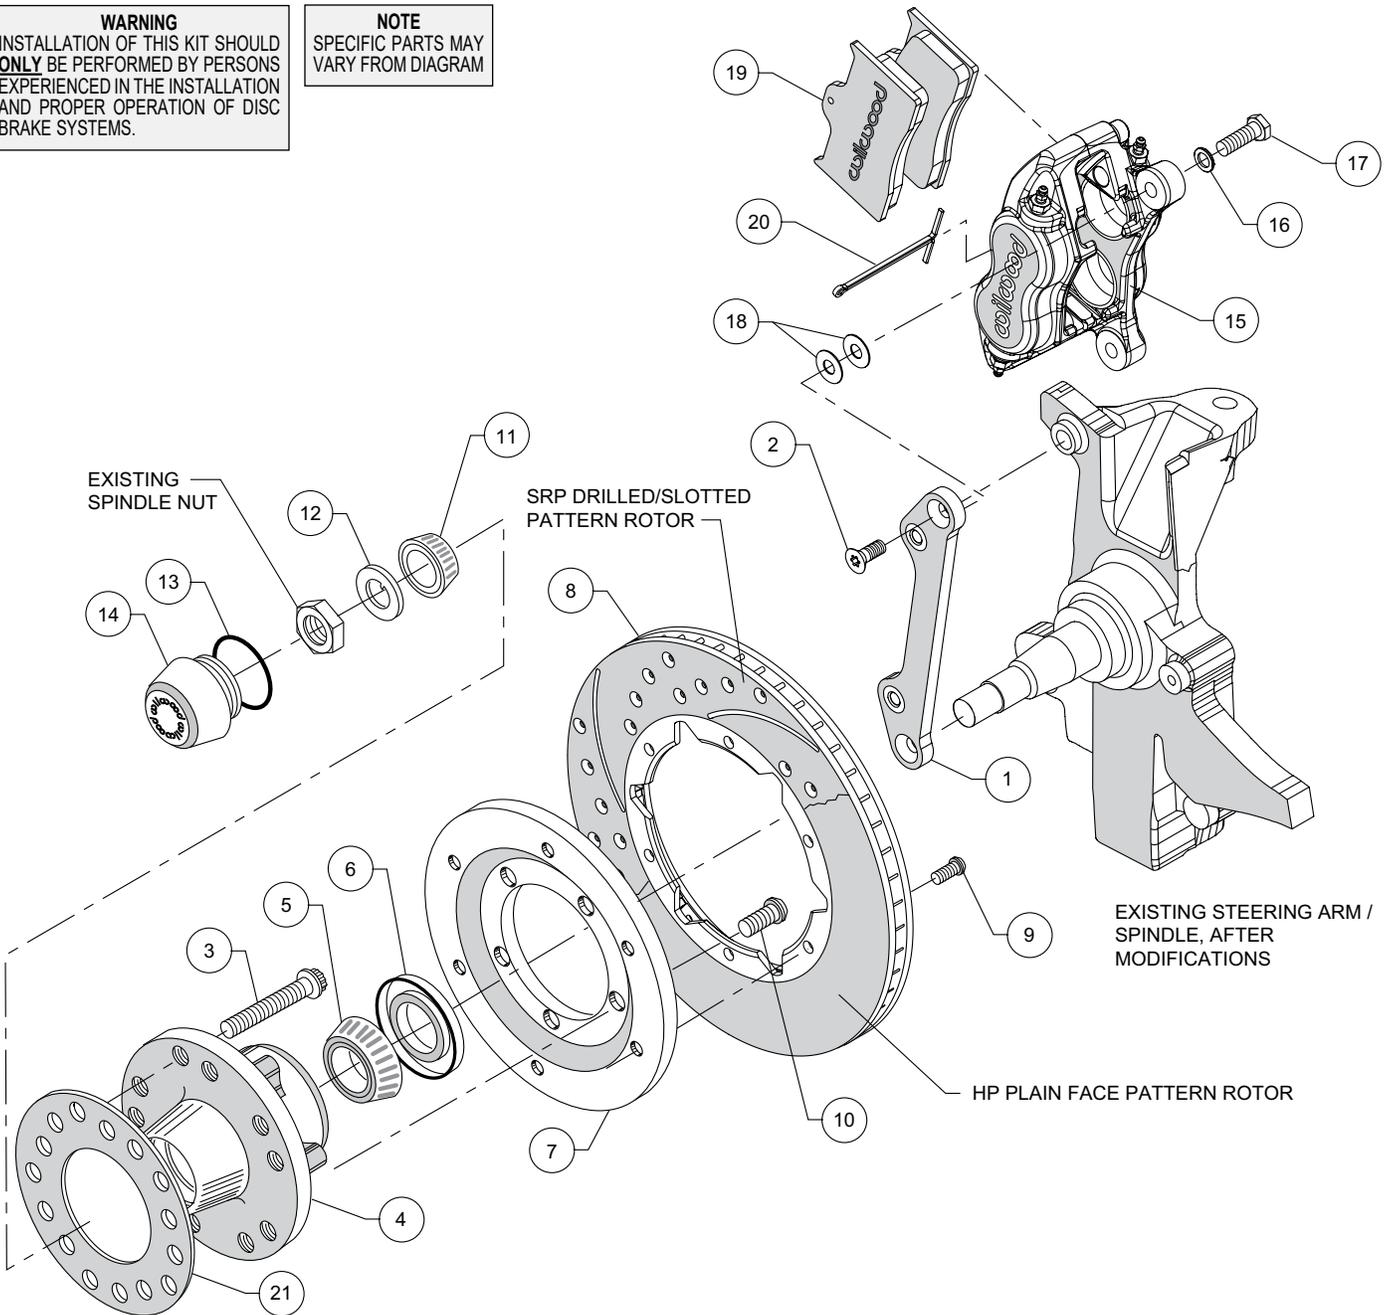
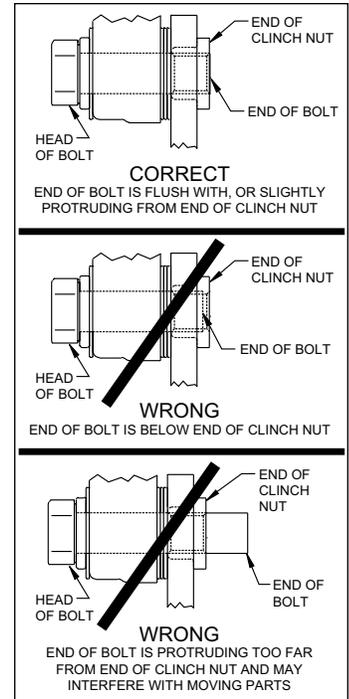

Figure 2. Typical Installation Configuration
Figure 4. Clinch Nut Engagement Diagram
CAUTION: All mounting bolts must fully engage clinch nuts. Be sure to check that all bolts are either flush or protruding through flanged side of clinch nut after shimming, Figure 4.
•Align caliper mounting bracket (1) with the corresponding holes, to the face of the spindle. Attach using bolts (2) as shown in Figure 2 and Photo1. Temporarily tighten the mounting bolts. Ensure that the flanged heads of the clinch nuts in the bracket are facing outboard, Photo 1.
- Mount the adapter/rotor assembly (7/8) to the hub (4) using bolts (10), as shown in Figure 2 and Photo 5. Using an alternating sequence, apply red *Loctite*® 271 to the threads, and torque to 45 ft-lb.
- NOTE:** *Please reference the caution statement at the beginning of the assembly instructions.* Mount the caliper (15) onto the caliper mounting bracket (1) using bolts (17) and washers (16), as shown in Figure 2. Initially place two .035" thick shims (18) on each bolt between the caliper and the bracket, Photo 8. Temporarily tighten the mounting bolts and view the rotor (8) through the top opening of the caliper. The rotor should be centered in the caliper, Photo 9. If not, adjust by adding or subtracting shims between the bracket and the caliper. Always use the same amount of shims on each of the two mounting bolts. **NOTE:** *The end of each bolt must be flush with or slightly protruding from the head of the clinch nut, as shown in Figure 4.* If necessary place spare shims between washer (16) and caliper mounting ear to achieve the proper clinch nut engagement. Once the caliper alignment and clinch nut engagement are correct, remove the bolts one at a time, apply red *Loctite*® 271 to bolt threads, and torque to 40 ft-lb.
- Install the disc brake pads (19) into the caliper, with the friction material facing the rotor (8), and secure in place using cotter pin (20), Photo 10.